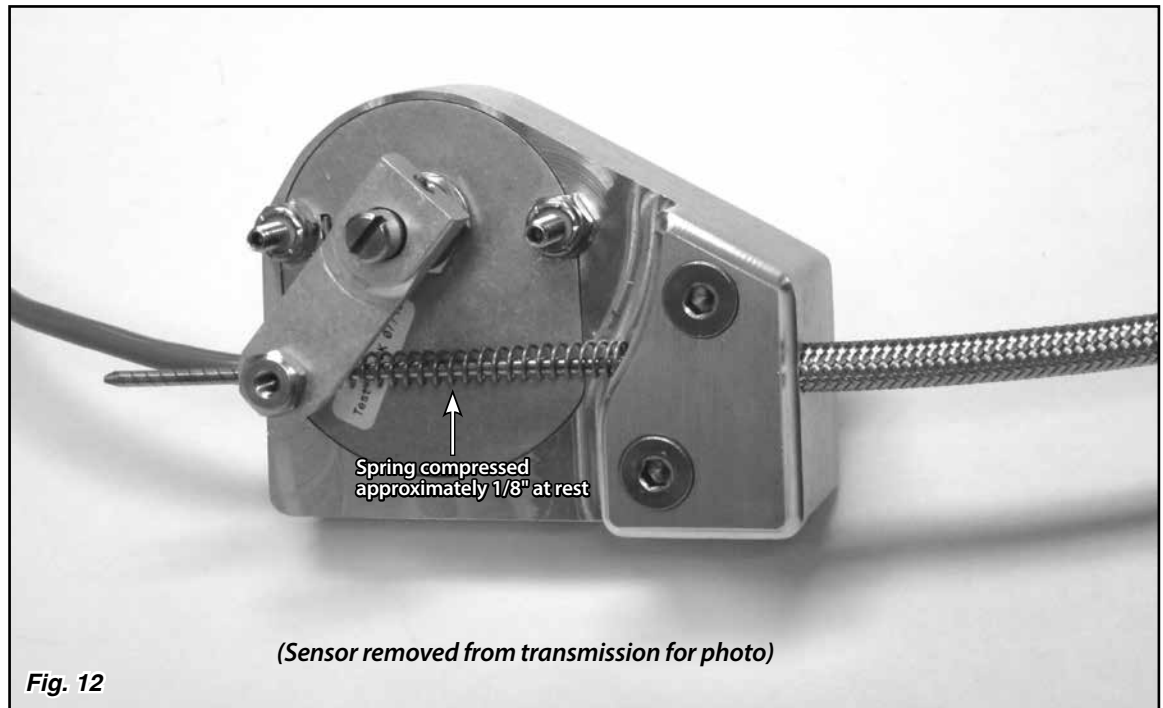

Fig. 12
Step 13: Make sure the transmission is in Park. **Push the sensor arm up against the spring, so that the spring is compressed approximately 1/8" at rest in Park. Fig. 12** Tighten the set screw in the index cable stop on the sensor arm using a 1/16" Allen wrench. Trim the excess inner wire, leaving about 1" protruding.